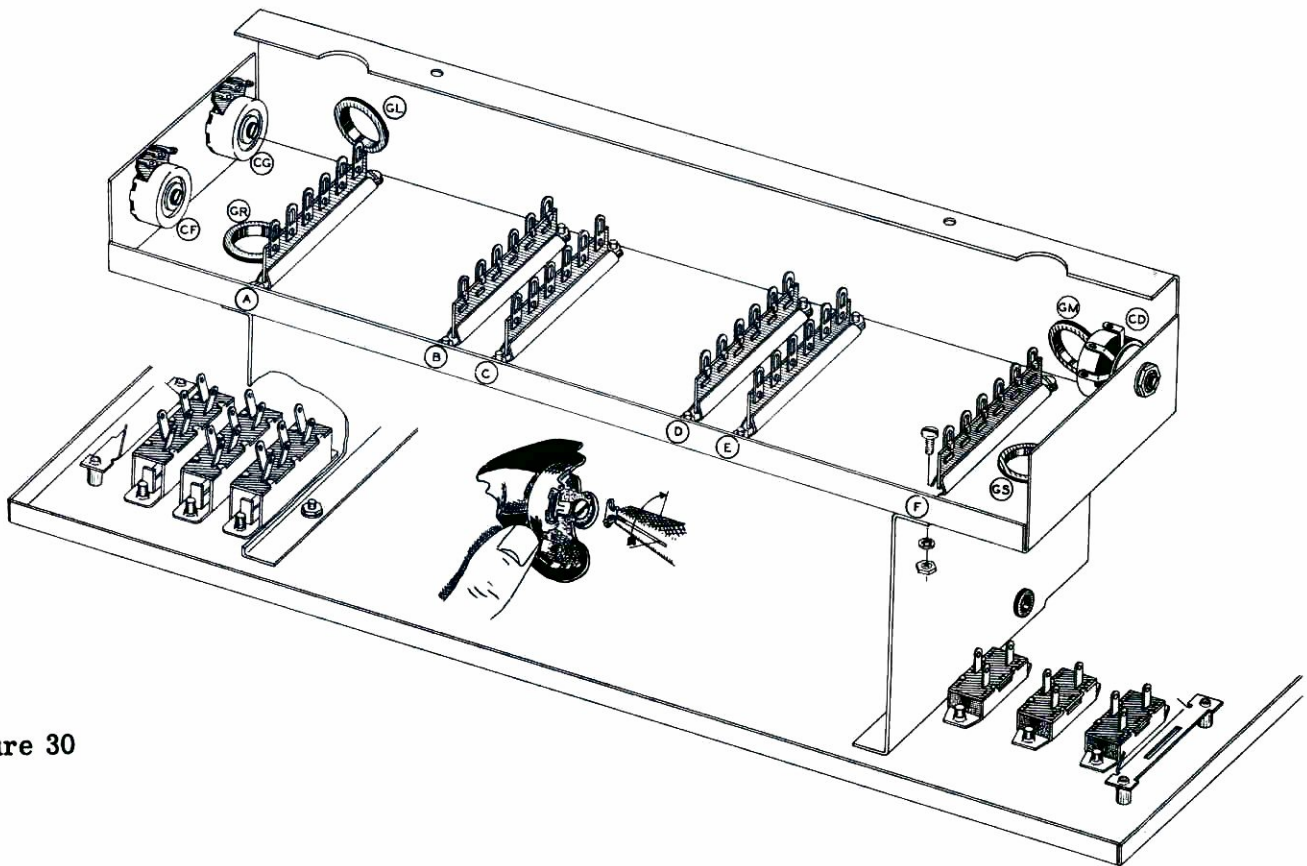

Figure 30
- () Mount the two 10 K Ω tab mount controls (#10-57) in the end flange of the sub-chassis. See Figure 30 for mounting details.